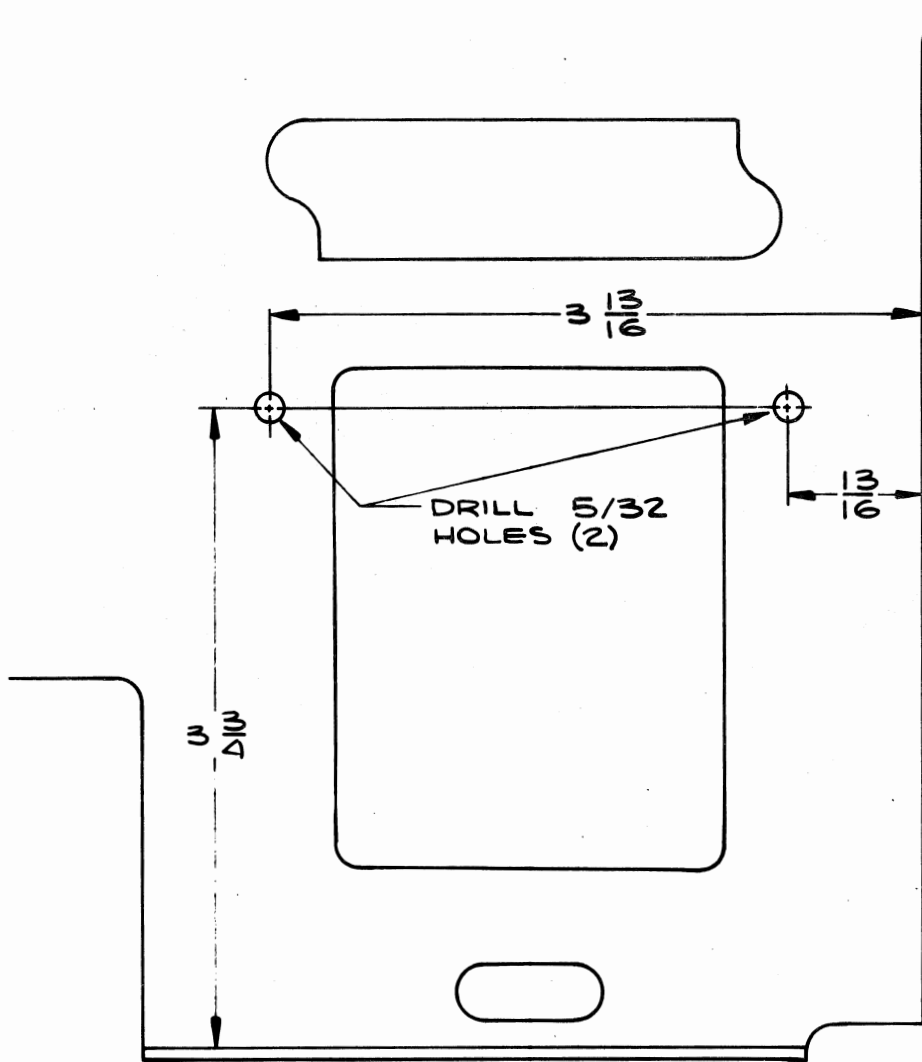

Fig. 5
- ( ) 1. Drill two 5/32 in. holes in the bulkhead, at the rear of the right plug-in compartment, as shown in Fig. 5.